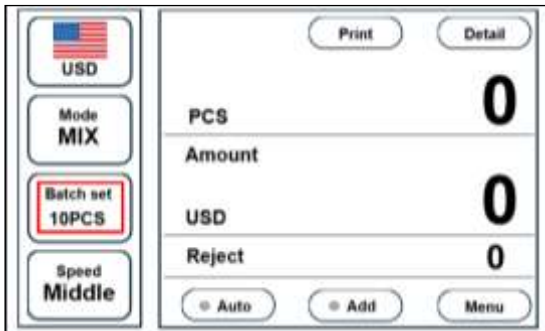
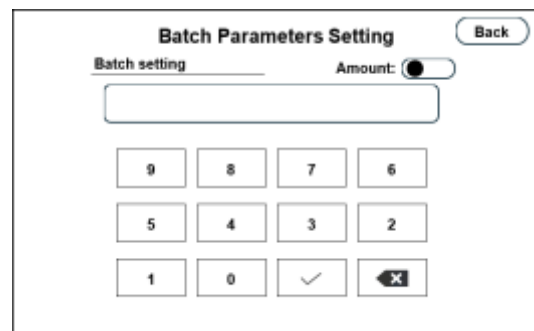

Figure 38
Figure 39
1) Touch the batch set area of the main interface for 1-2 seconds to enter the customized batch parameters setting interface, as shown in Figure 38 and Figure 39 below.